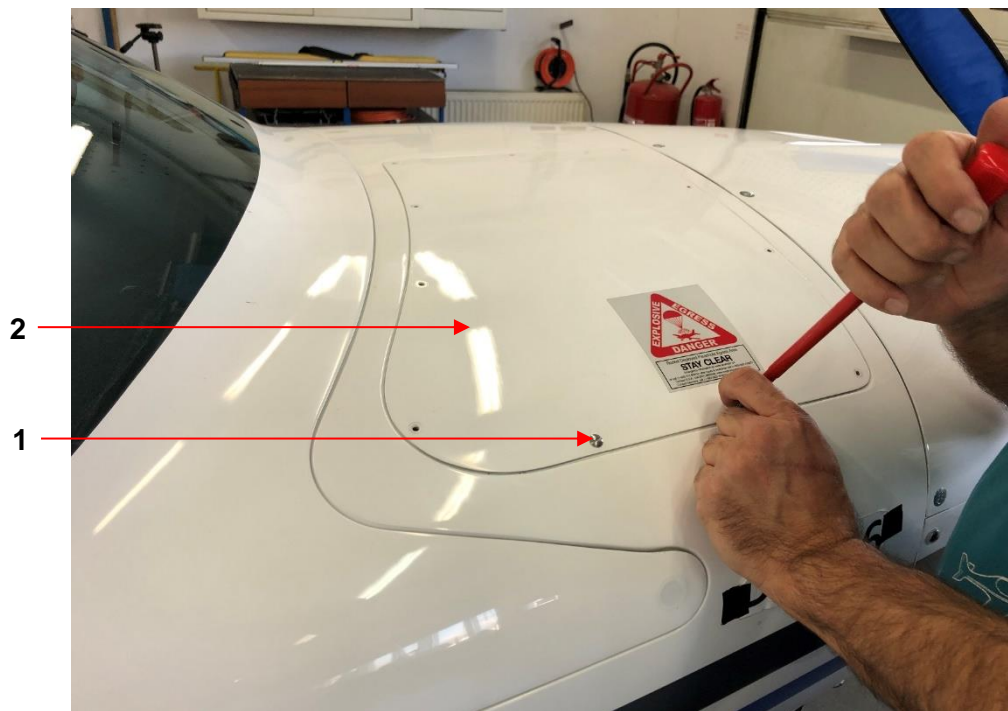

Fig. 2
2. Remove the screws (1; Fig. 2) and remove the rescue system cover (2) using a flat screwdriver.
26. Install the rescue system cover (2; Fig. 2) and instrument panel cover (17; Fig. 10) using a flat screwdriver.